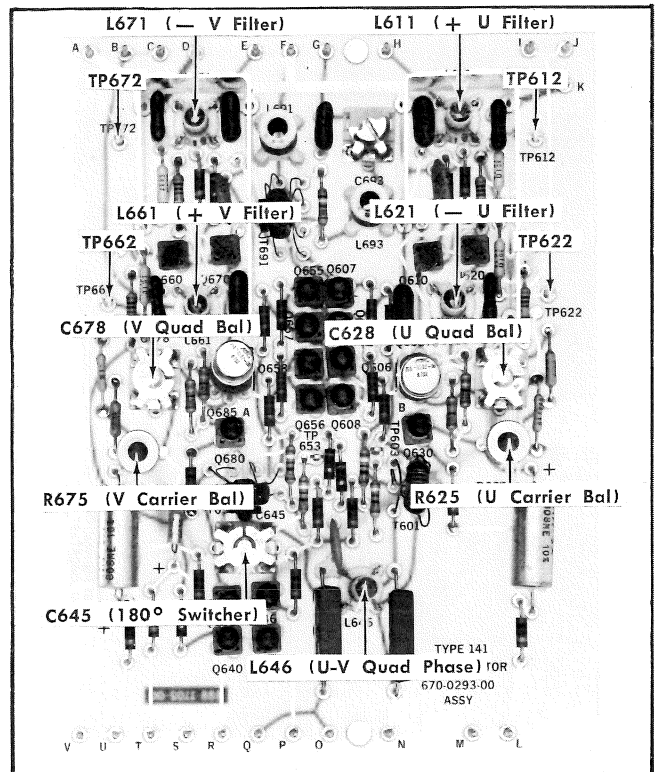

Fig. 5-15. U and V Modulator board adjustment and test point locations.
- d. Connect the 10 $\times$  probe tip to TP612 on the Type R141A U and V Modulator board; see Fig. 5-15.
- f. ADJUST— +U Filter, L611, (see Fig. 5-15) for optimum square corner on the leading edges of the display as shown in Fig. 5-16A.
f. ADJUST—V Quad Bal control, C678; U Quad Bal control C628; V Carrier Bal control, R675; U Carrier Bal control, R625, (see Fig. 5-15) for a chrominance amplitude on the blanking level of 2.5 mV peak to peak or less, and equal amplitude on each line.
f. ADJUST—U-V Quad Phase control, L646, (see Fig. 5-15) until the colour bars overlay.
h. ADJUST—180° Switcher, C645, (see Fig. 5-15) until the requirements of parts e and g are met.